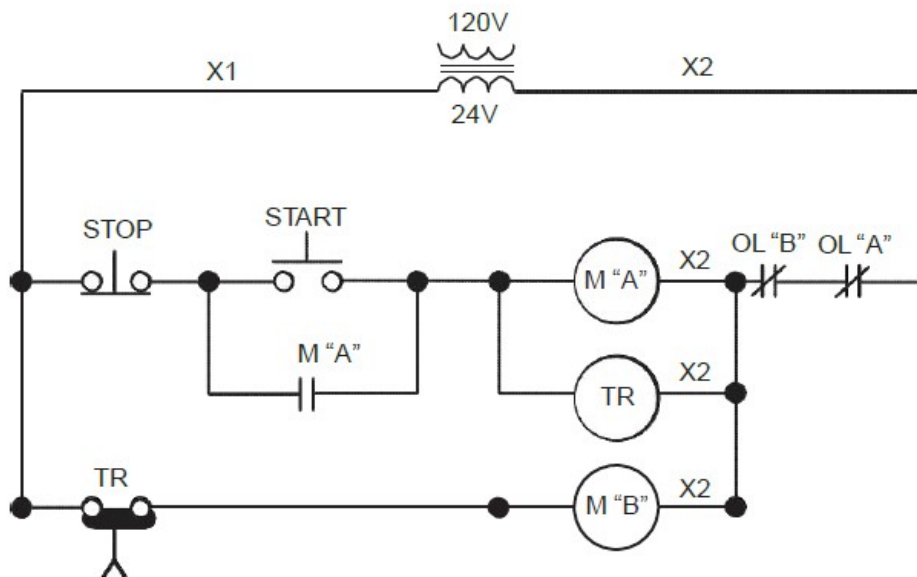

Figure 2 ■ Wiring Schematic
2. Refer to Figure 2 wiring schematic for wiring the project.